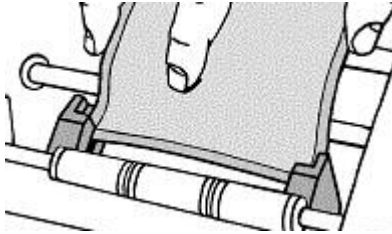

Figure 2-8. Advancing tape into guides.
Step 7: Advance the tape only halfway through the guides, as shown in the close-up in Figure 2-8 below: